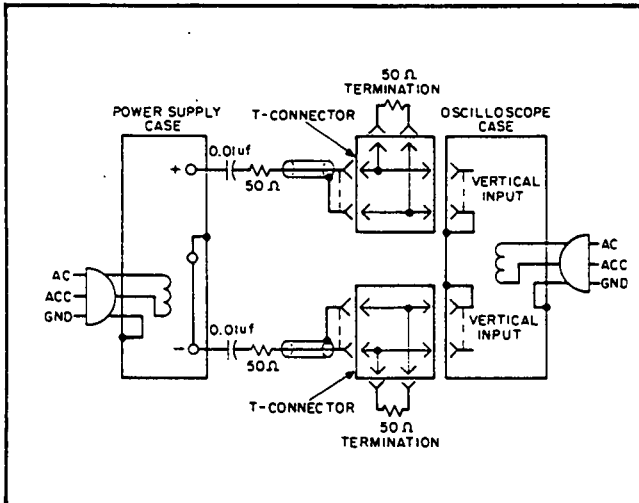

Figure 5-4. CV Noise Spike Test Setup
a. As shown in Figure 5-4, two coax cables, must be substituted for the shielded two-wire cable.